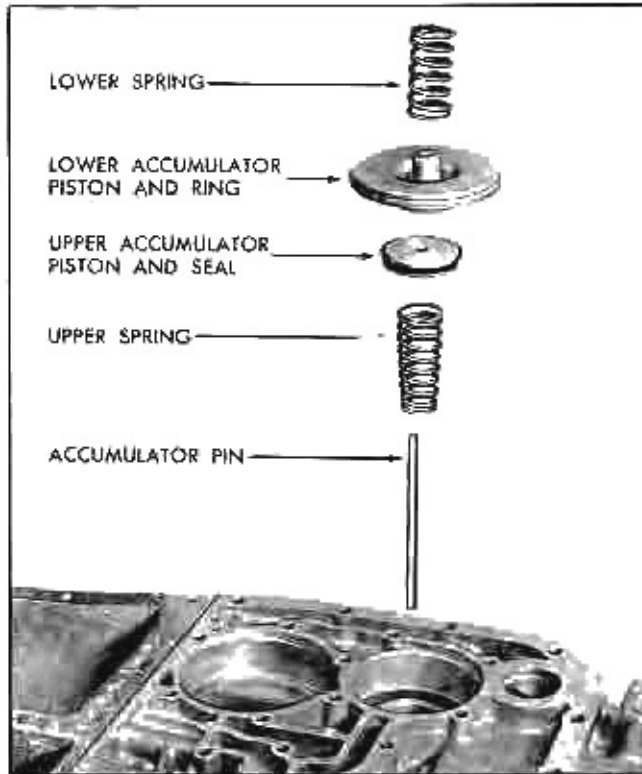

Fig. 127 Accumulator Assembly—Exploded
2. Install upper accumulator spring, small end first (Fig. 127).